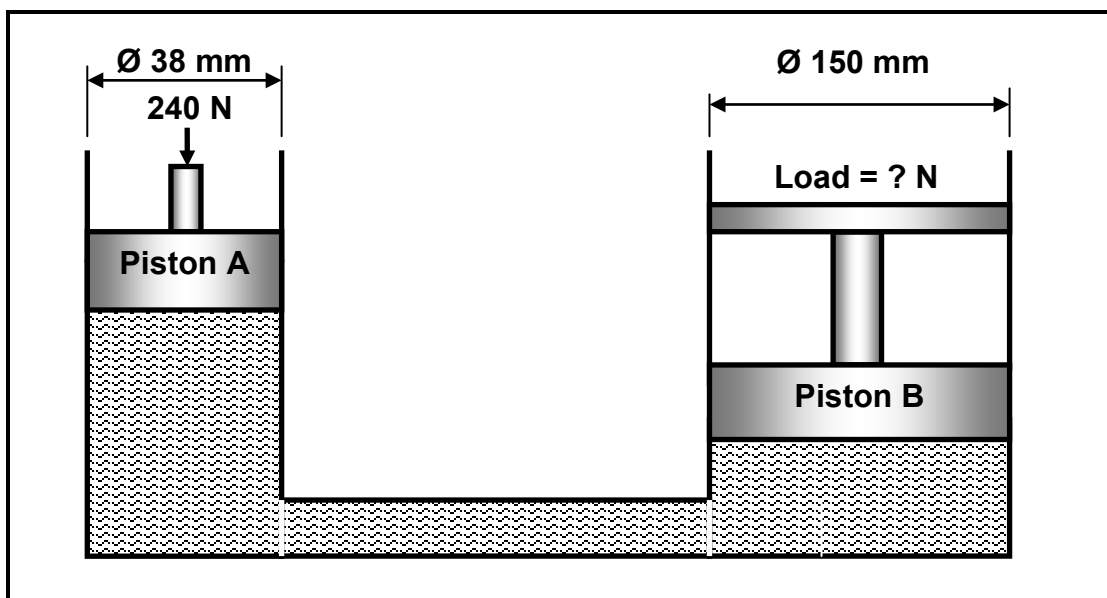

FIGURE 9.2
- 9.3 A hydraulic system is used to compress scrap metal for recycling. The specifications of the system are presented diagrammatically in FIGURE 9.2.